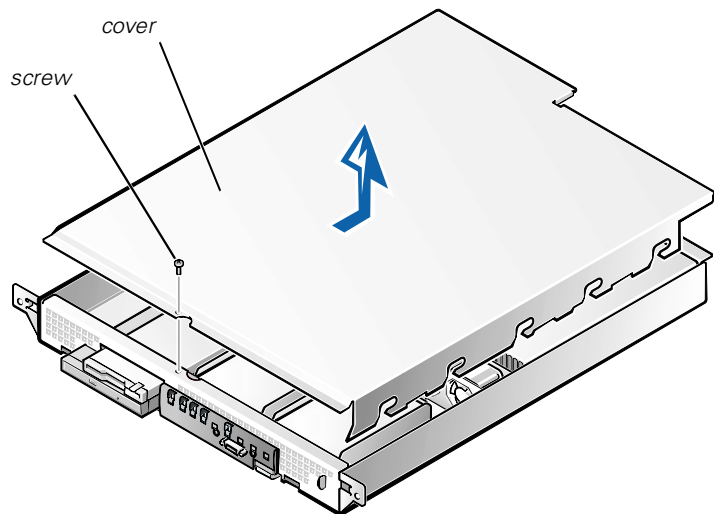

Figure 7-2. Opening the System Cover
3. Using a Phillips screwdriver, remove the screw securing the cover to the front panel (Figure 7-2).
- Secure the cover with the screw you removed when you opened the cover (see Figure 7-2).